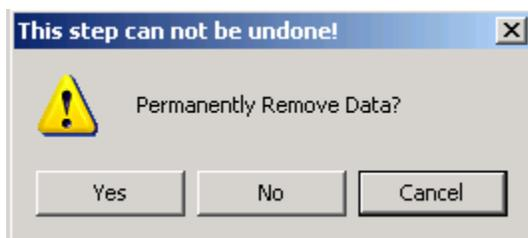

Figure 6-10. Permanently Remove Data message.
- You may also use the “Replace Comments” function to clear all of the existing comments in your subset. Leave the “New Text” box empty, and click on the “Replace comments with new text” button. A Permanently Remove Data message (Figure 6-10) will appear.